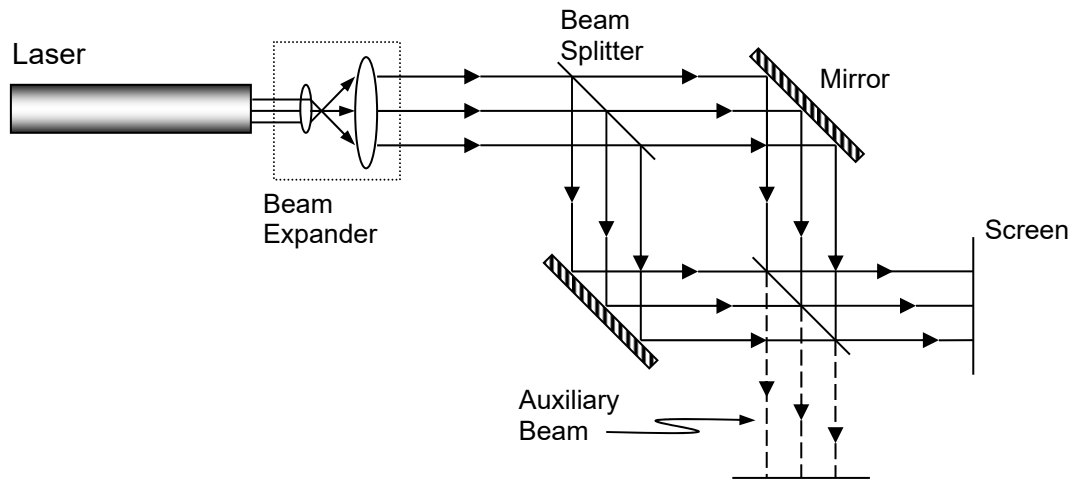

Fig. 2. The Mach-Zehnder Interferometer
- Explain with the aid of Figure 2 and your knowledge of phase changes on reflection from surfaces why the two output beams of the Mach-Zehnder interferometer are complementary.